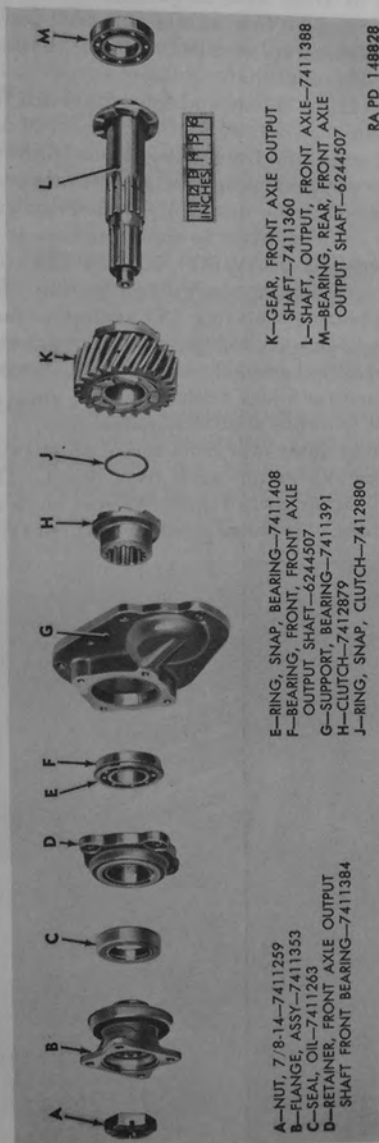

Figure 71. Front axle output shaft and related components.
d. Remove clutch (AF) from front axle output shaft; then remove clutch snap ring ((J), fig. 71) from groove in front axle output shaft. Remove front axle output shaft gear (AB) from output shaft.
Note. Key letters noted in parentheses are in figure 71 unless otherwise indicated.
a. *Cleaning.*—Wash all components shown in figure 71 in dry-cleaning solvent or volatile mineral spirits. Dry parts with clean cloth or with air.